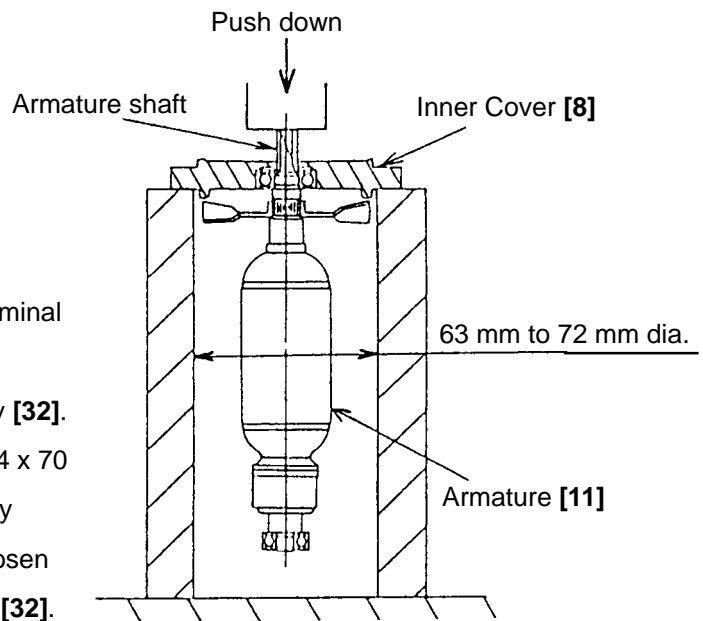

Fig. 5
(1) Disassembly of the Armature **[11]**:
- ① Loosen the Brush Caps **[41]**, and take out the Carbon Brushes **[42]**.
- ② Loosen the four Tapping Screws D5 x 30 **[1]**, remove the Gear Cover **[2]**, and take out the Armature **[11]** together with the Inner Cover **[8]** in a single body from the Housing Ass'y **[32]**.
- ③ As illustrated in Fig. 5, support the Inner Cover **[8]** with an appropriate tubular jig (inner diameter: 63 mm to 72 mm), and press down on the pinion portion of the armature shaft with a hand press to loosen and remove the Armature **[11]**.
(2) Disassembly of the Stator **[14]**:
- ① After the Armature **[11]** has been disassembled, loosen the Tapping Screw (W/Flange) D4 x 45 **[51]**, and remove the Tail Cover **[50]**.
- ② Remove the four internal wires from the Stator **[14]** connected with the Brush Holder **[43]**, the Pillar Terminal **[39]** and the Switch (1P Solder Type) **[44]**.
- ③ Remove the Fan Guide **[12]** from the Housing Ass'y **[32]**.
- ④ After removing the two Hex. Hd. Tapping Screws D4 x 70 **[13]**, gently tap the end surface of the Housing Ass'y **[32]** (gear cover side) with a wooden hammer to loosen and remove the Stator **[14]** from the Housing Ass'y **[32]**.